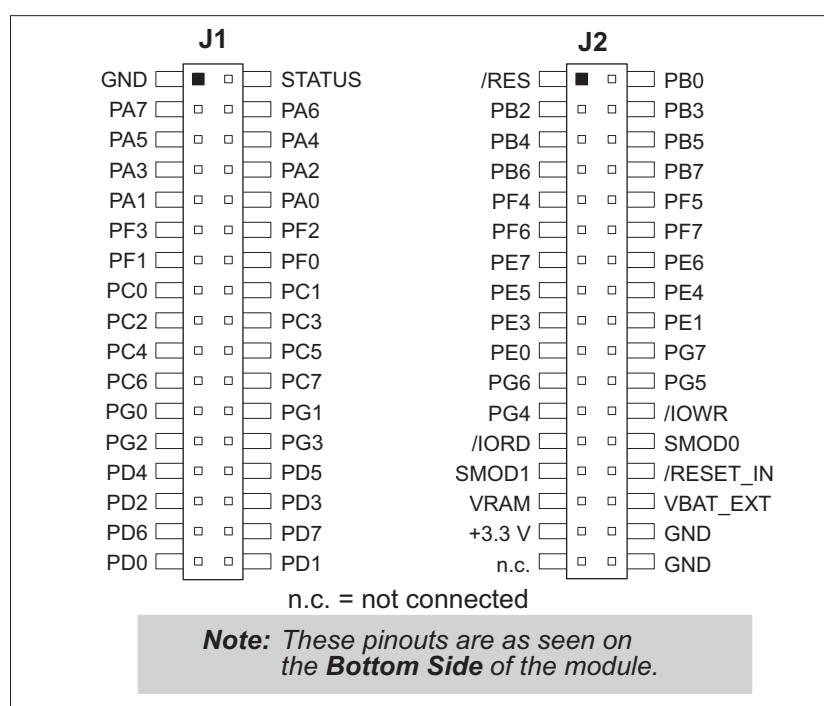

Figure 1. RCM3100 Connector Pinout
The RCM3100 modules have two 34-pin headers to which cables can be connected, or which can be plugged into matching sockets on a production device. The pinouts for these connectors are shown in Figure 1 below.
- **Module Extension Headers**—The complete pin sets of both the **MASTER** and **SLAVE** RabbitCore modules are duplicated at these two sets of headers. Developers can solder wires directly into the appropriate holes, or, for more flexible development, 26-pin header strips can be soldered into place. See Figure 1 for the header pinouts.